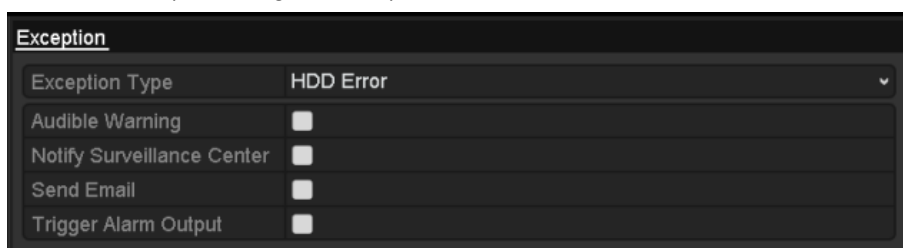

Figure 12. 24 Configure HDD Error Alarm
3. Click the checkbox(s) below to select the HDD error alarm type (s), as shown in Figure 12. 24.